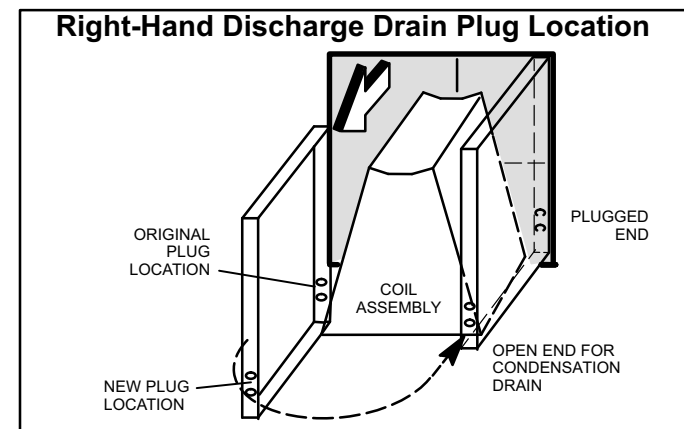

FIGURE 11
6. Move horizontal drain pan to the opposite side of the coil. Plugged drain holes will now be toward the back of the unit (see figure 11).